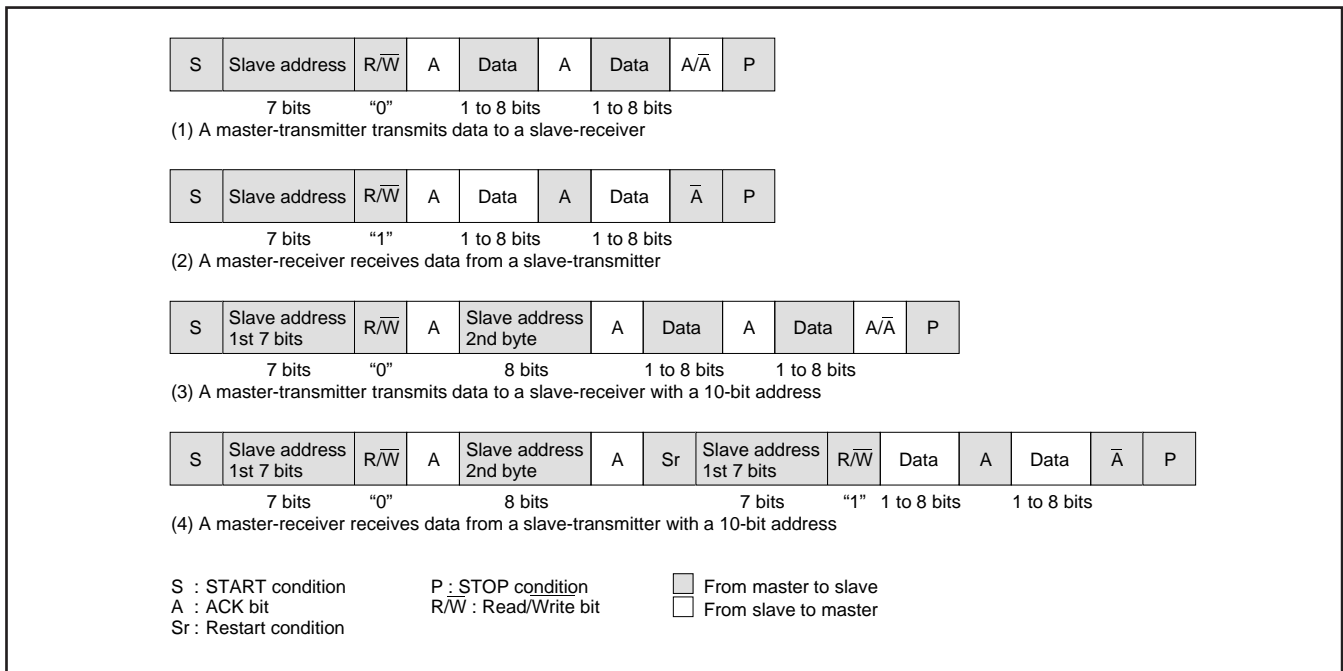

Fig. 12.6.12 Address Data Communication Format
(1) 7-bit Addressing Format
To meet the 7-bit addressing format, set the 10BIT SAD bit of the I²C control register (address 00F9₁₆) to "0." The first 7-bit address data transmitted from the master is compared with the high-order 7-bit slave address stored in the I²C address register (address 00F7₁₆). At the time of this comparison, address comparison of the RBW bit of the I²C address register (address 00F7₁₆) is not made. For the data transmission format when the 7-bit addressing format is selected, refer to Figure 12.6.12, (1) and (2).
(2) 10-bit Addressing Format
When the first-byte address data matches the slave address, the AAS bit of the I²C status register (address 00F8₁₆) is set to "1." After the second-byte address data is stored into the I²C data shift register (address 00F6₁₆), make an address comparison between the second-byte data and the slave address by software. When the address data of the 2nd bytes matches the slave address, set the RBW bit of the I²C address register (address 00F7₁₆) to "1" by software. This processing can match the 7-bit slave address and R/W data, which are received after a RESTART condition is detected, with the value of the I²C address register (address 00F7₁₆). For the data transmission format when the 10-bit addressing format is selected, refer to Figure 12.6.12, (3) and (4).